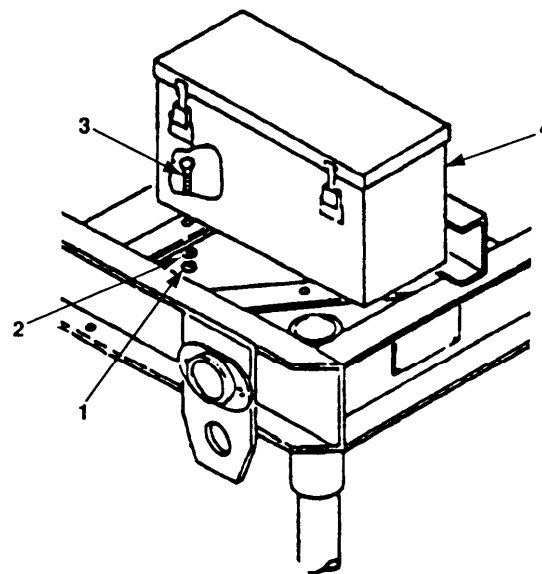

Figure 4-71. Tool Box Maintenance.
- a. Open lid of tool box (4).
- b. Remove three nuts (figure 4-71, 1), lockwashers (2), and bolts (3) that secure tool box (4).
- c. Remove tool box (4).
- a. Open tool box (4) and align mounting holes.
- b. Insert three bolts (3) through mounting holes.
- c. Install lockwasher (2) and nut (1) on each bolt (3).